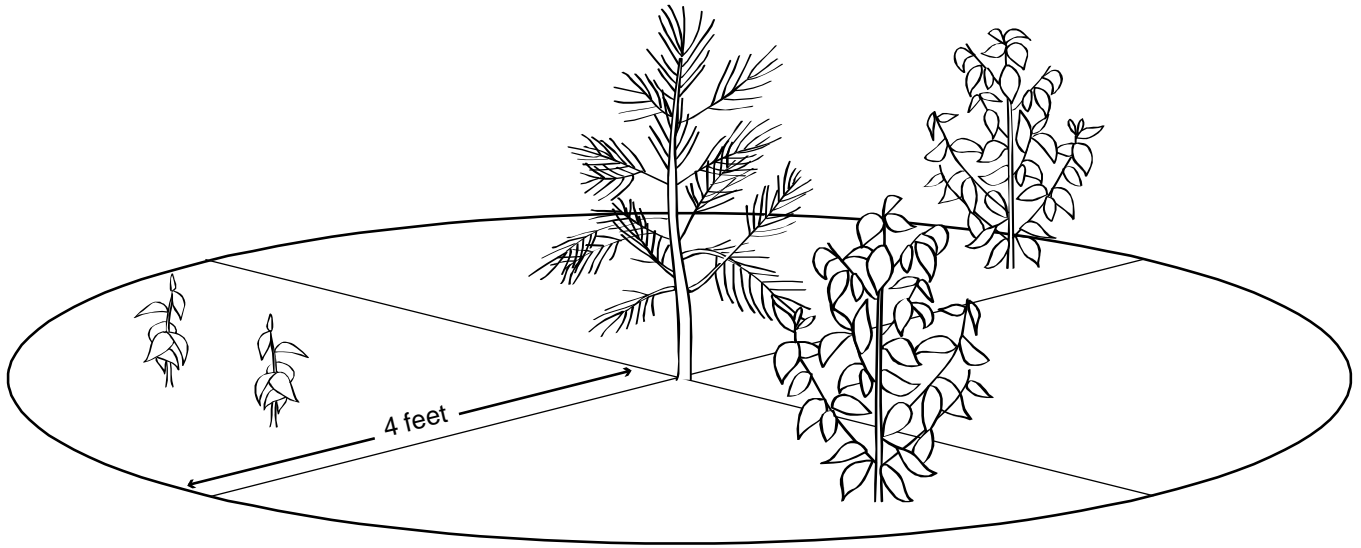

Figure 2
- 2) woody shrub competitors taller than two thirds of the crop tree height occur in at least two quadrants around the crop tree and more than two quadrants are occupied by either woody shrub or non-crop tree competitors (see Figure 2).